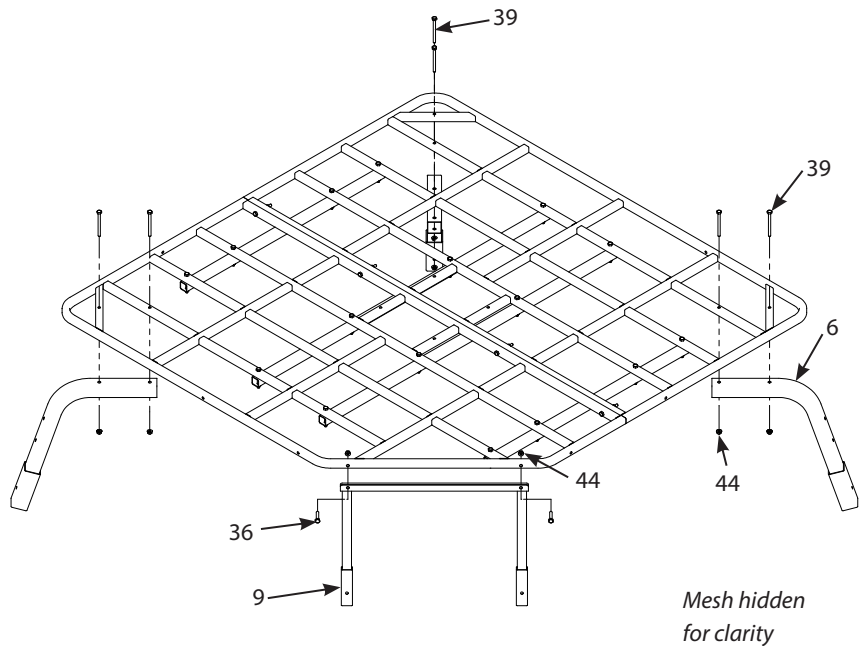

FIGURE 4
- Attach the three leg-to-platform attachment parts (6) to the assembled platform using two 1/4-20 X 3 IN bolts (39) and 1/4-20 nuts (44) for each part. **SEE FIGURE 4.**
Attach the ladder-to-platform attachment part (9) to the assembled platform using two 1/4-20 X 1-1/2 IN bolts (36) and 1/4-20 nuts (44). **SEE FIGURE 4.** *Securely tighten all loose hardware at this time.*